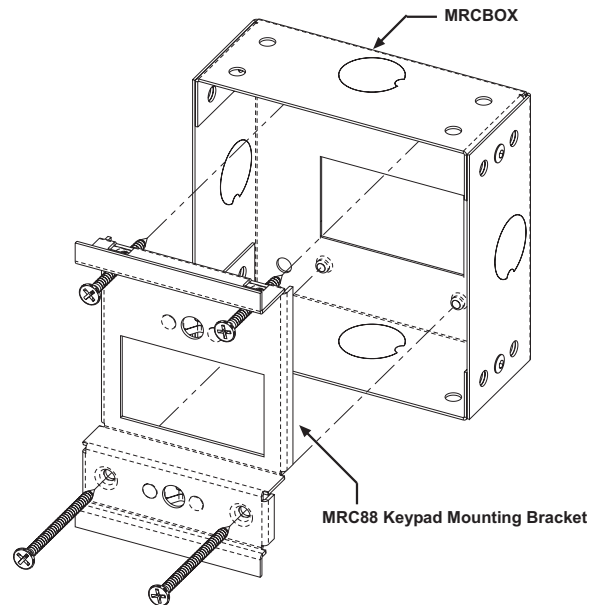

Figure 8B: Optional Keypad Back-Box for pre-install applications
- a. Position Back-Box so inner rectangle is in a horizontal position. as shown in **Figure 8B**